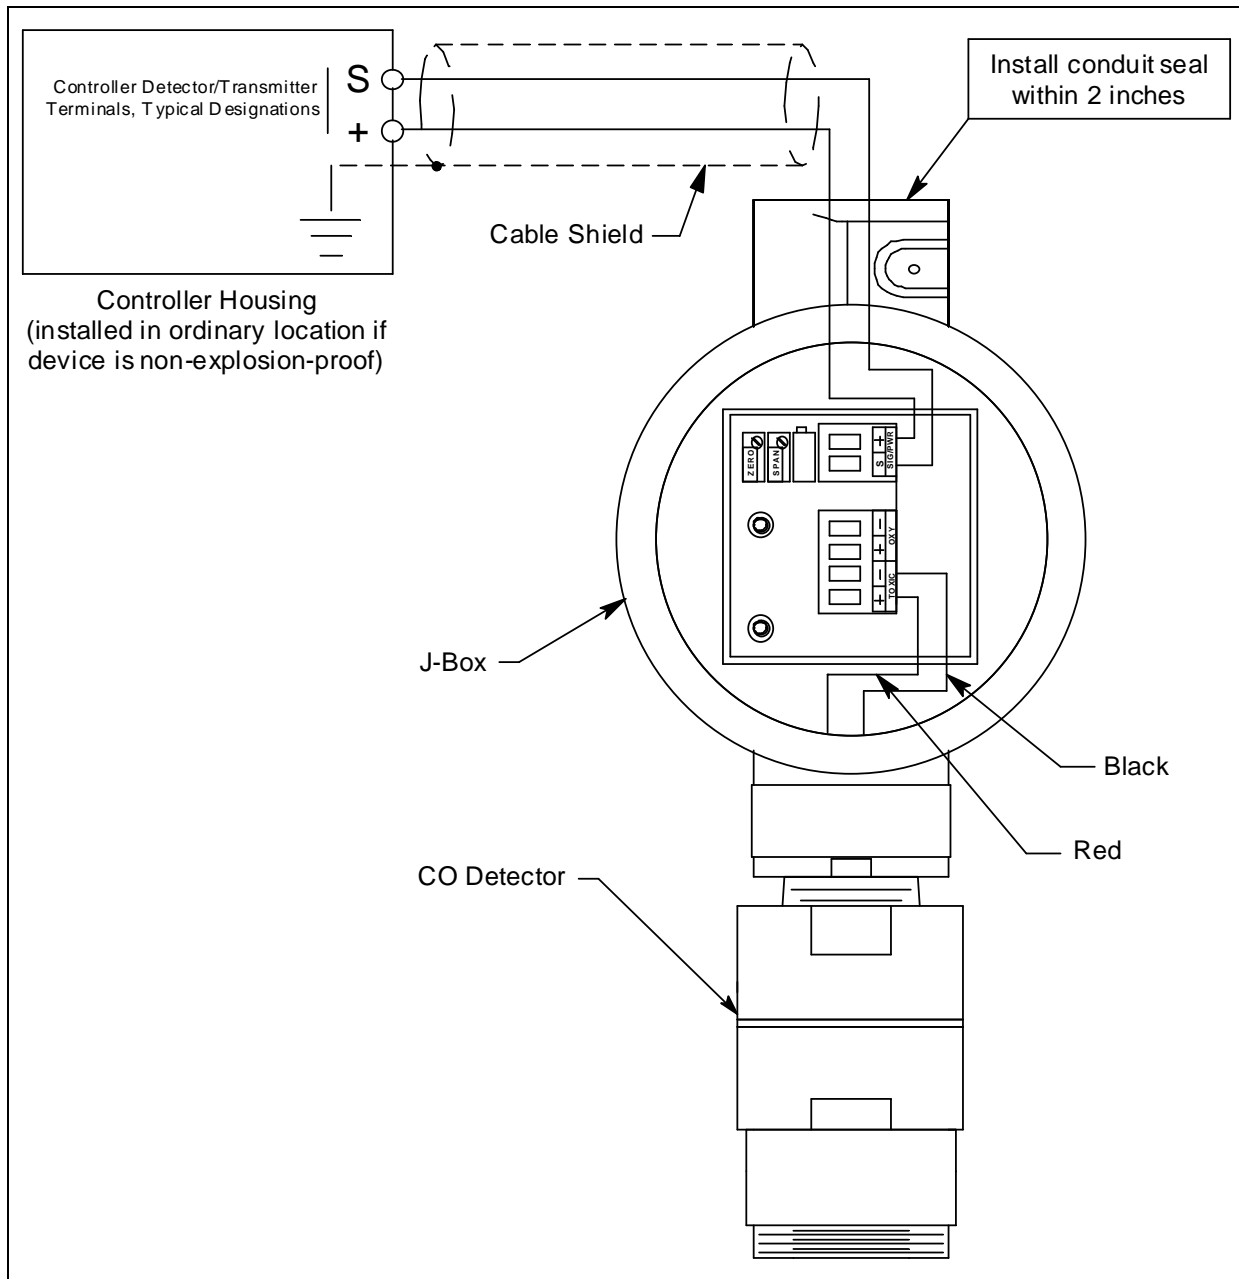

Figure 4: Wiring the CO Transmitter to a Controller
4. The detector leads are factory wired. Verify that the detector leads are wired to the amplifier's detector terminal strip as shown in Figure 4.
7. Pull out the controller terminal strip, and connect the two wires to the terminal strip as follows (see Figure 4):
11. Connect the wires to the applicable detector/transmitter terminal strip at the controller as shown in Figure 4.
8. Connect the detector leads to the appropriate detector terminal strip terminals. Connect the red wire to the terminal labeled TOXIC+ and the black wire to the terminal labeled TOXIC-. See Figure 4 for the detector wiring connections to the amplifier.